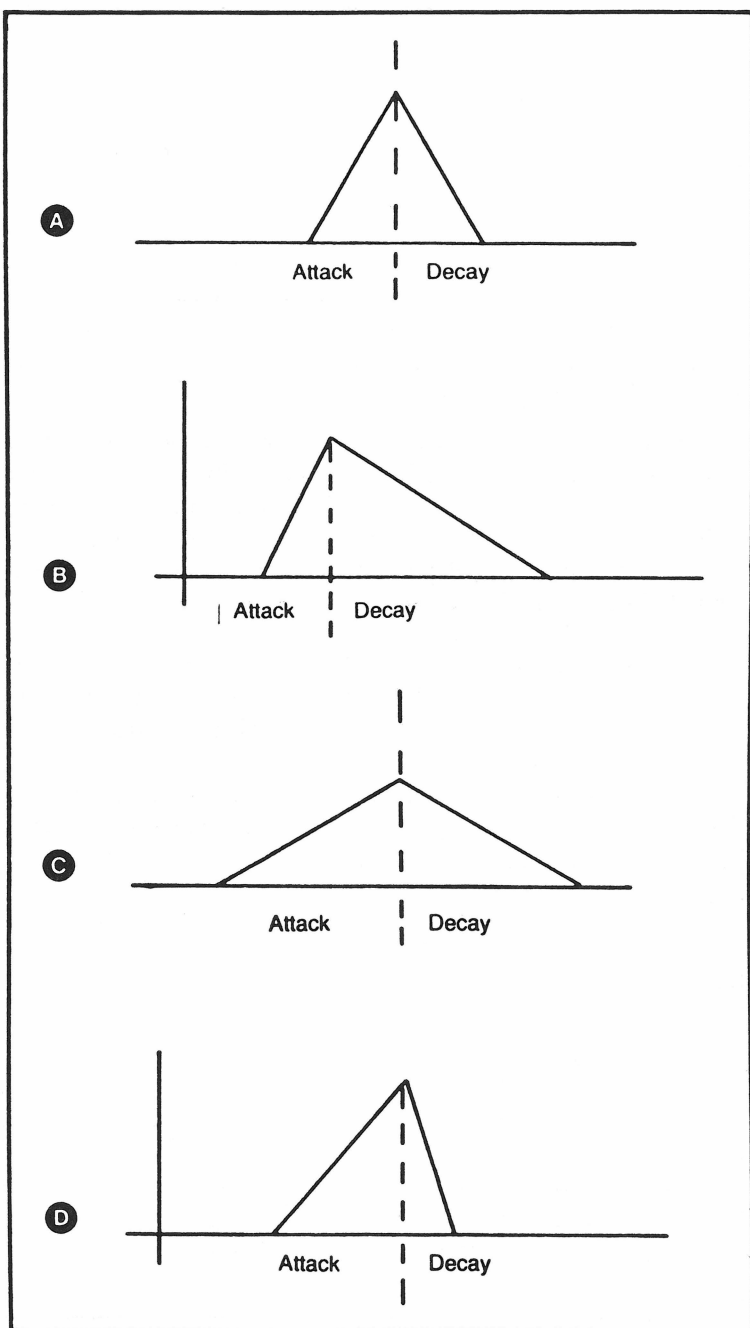
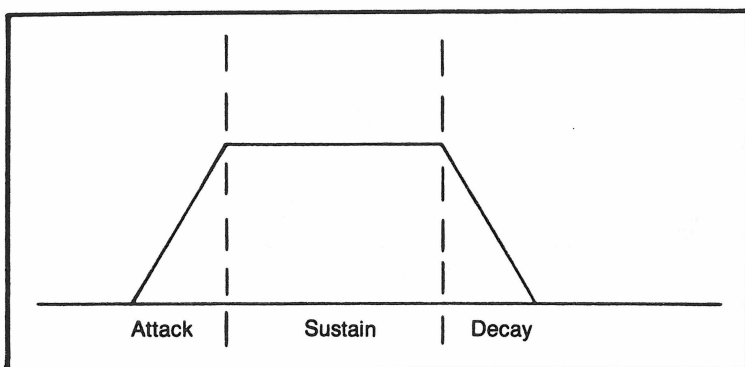

Fig. 10-2. Simple envelopes consist of an Attack and a Release.
Fig. 10-3. A typical Attack-Sustain-Release envelope.
An amplitude envelope always consists of at least two parts. The attack is the time it takes for the sound to build up from zero to its maximum level. The time it takes the sound to drop back down to zero is called the decay, or release. A few typical attack/release (AR) envelopes are illustrated in Fig. 10-2. A sound with the envelope shown in Fig. 10-2A has a very percussive effect. The
Most sounds have more complex amplitude envelopes than the simple AR examples of Fig. 10-2. For one thing, many sound sources can hold the tone at the maximum level for some time. This is called sustain. A typical attack/sustain/release (ASR) envelope is illustrated in Fig. 10-3.